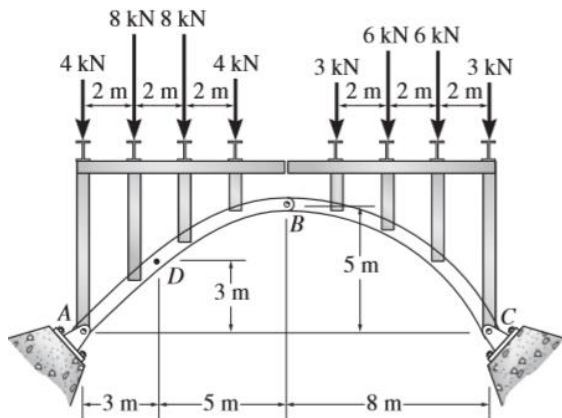

Fig. 3
3. The three-hinged spandrel arch is subjected to the loading shown. Determine the internal moment in the arch at point D. (Fig. 3)